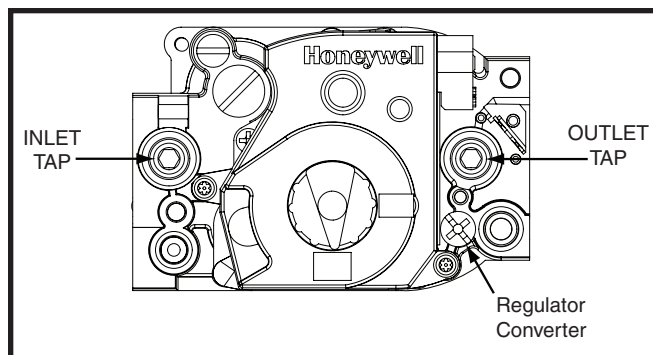

Figure 14. Direct Ignition Gas Valve
1. Remove the regulator converter from the gas valve. See Figure 14.
2. Using a 3/16" Allen wrench, remove the appropriate tap plug located on the gas valve. See Figure 14. **NOTE:** To measure the inlet gas pressure, remove the tap plug on the inlet side of the gas valve. To measure the manifold pressure, remove the tap plug on the outlet side of the gas valve.